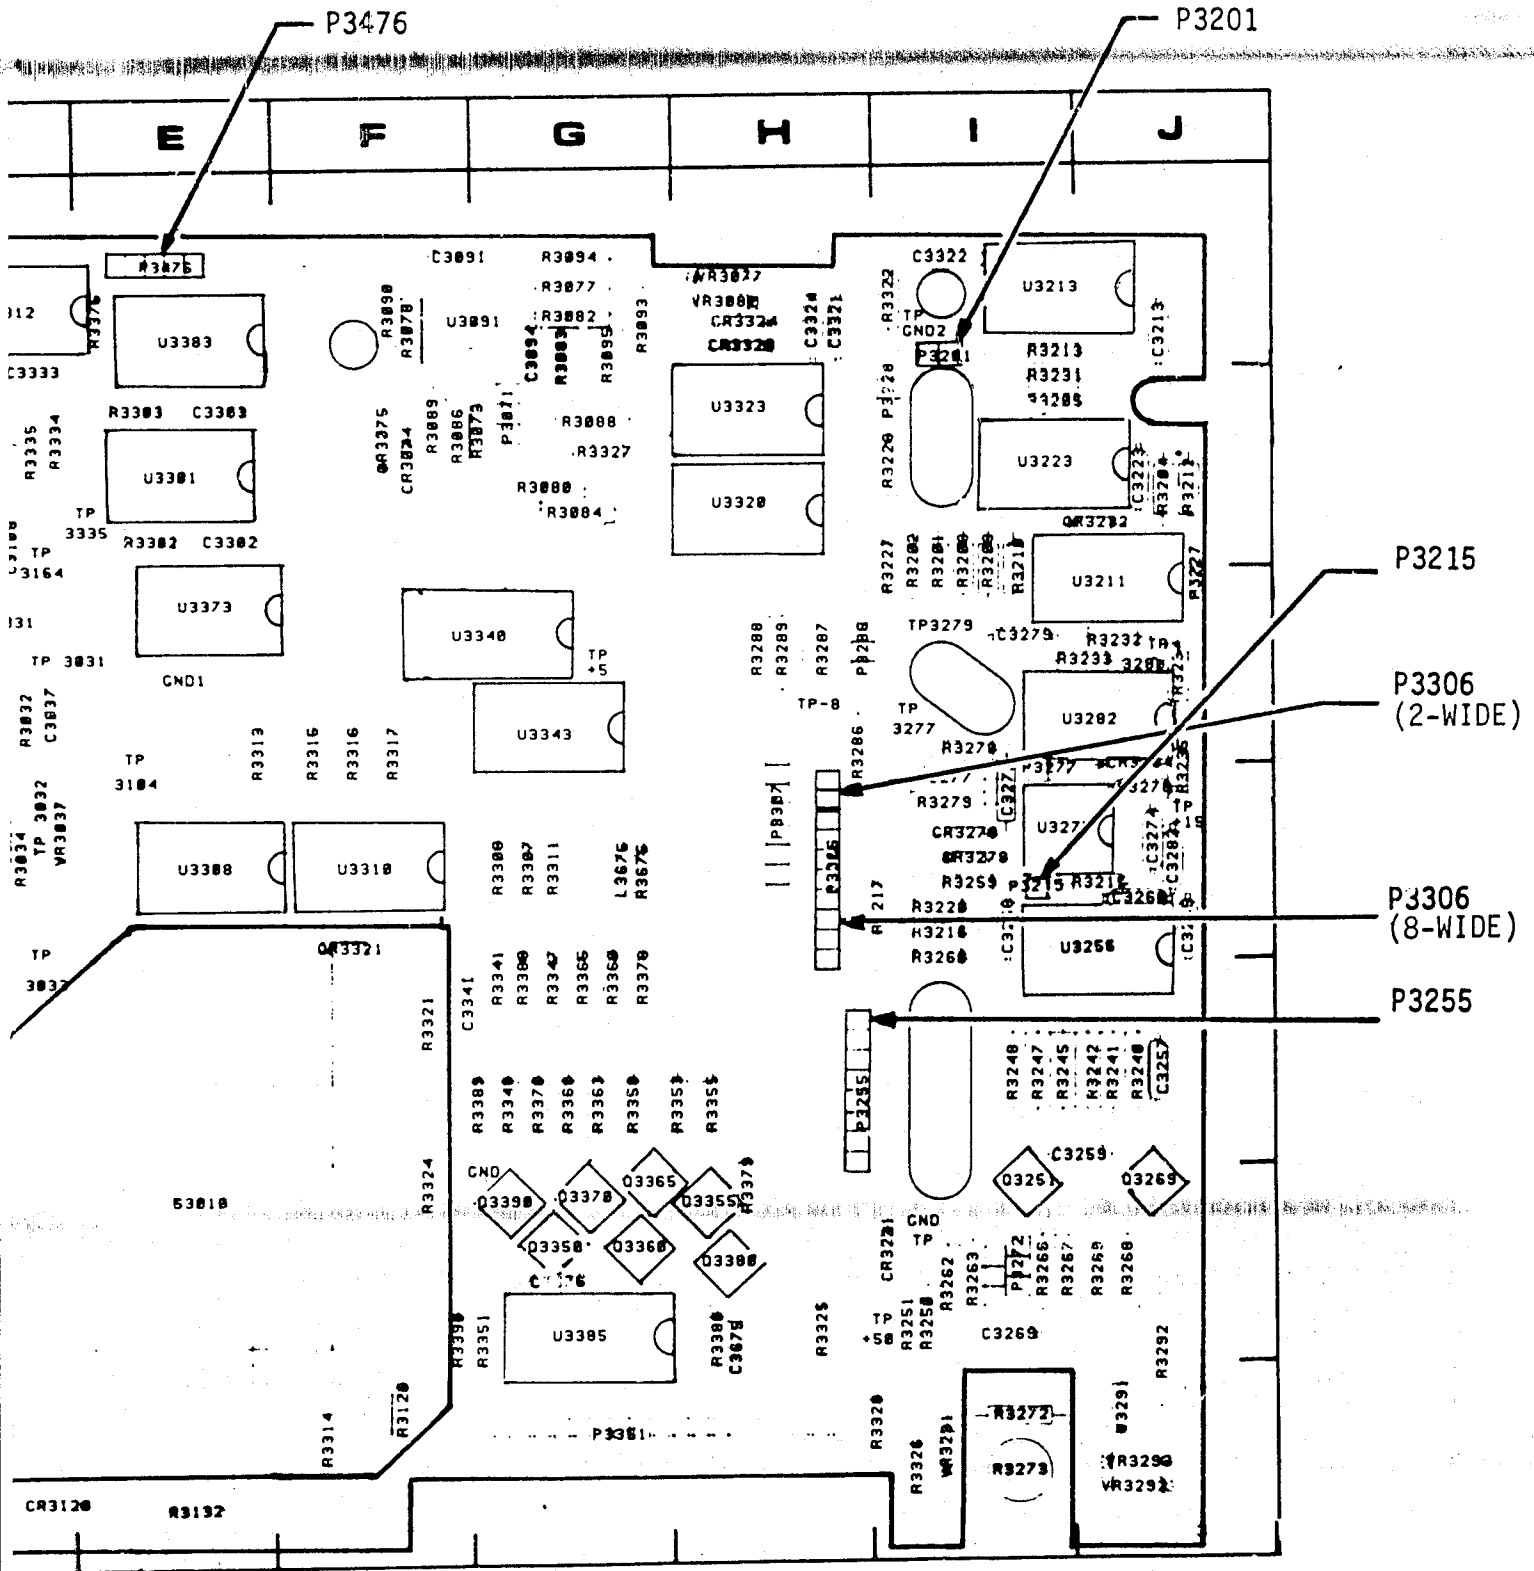

Fig. 9. DM44 Main Circuit Board
- 5. Connect the cables and wires between the DM44 and the 465 as follows (see Fig. 9 for location). Be sure to match the arrows (pin 1) on the connectors with the arrows on the circuit board.